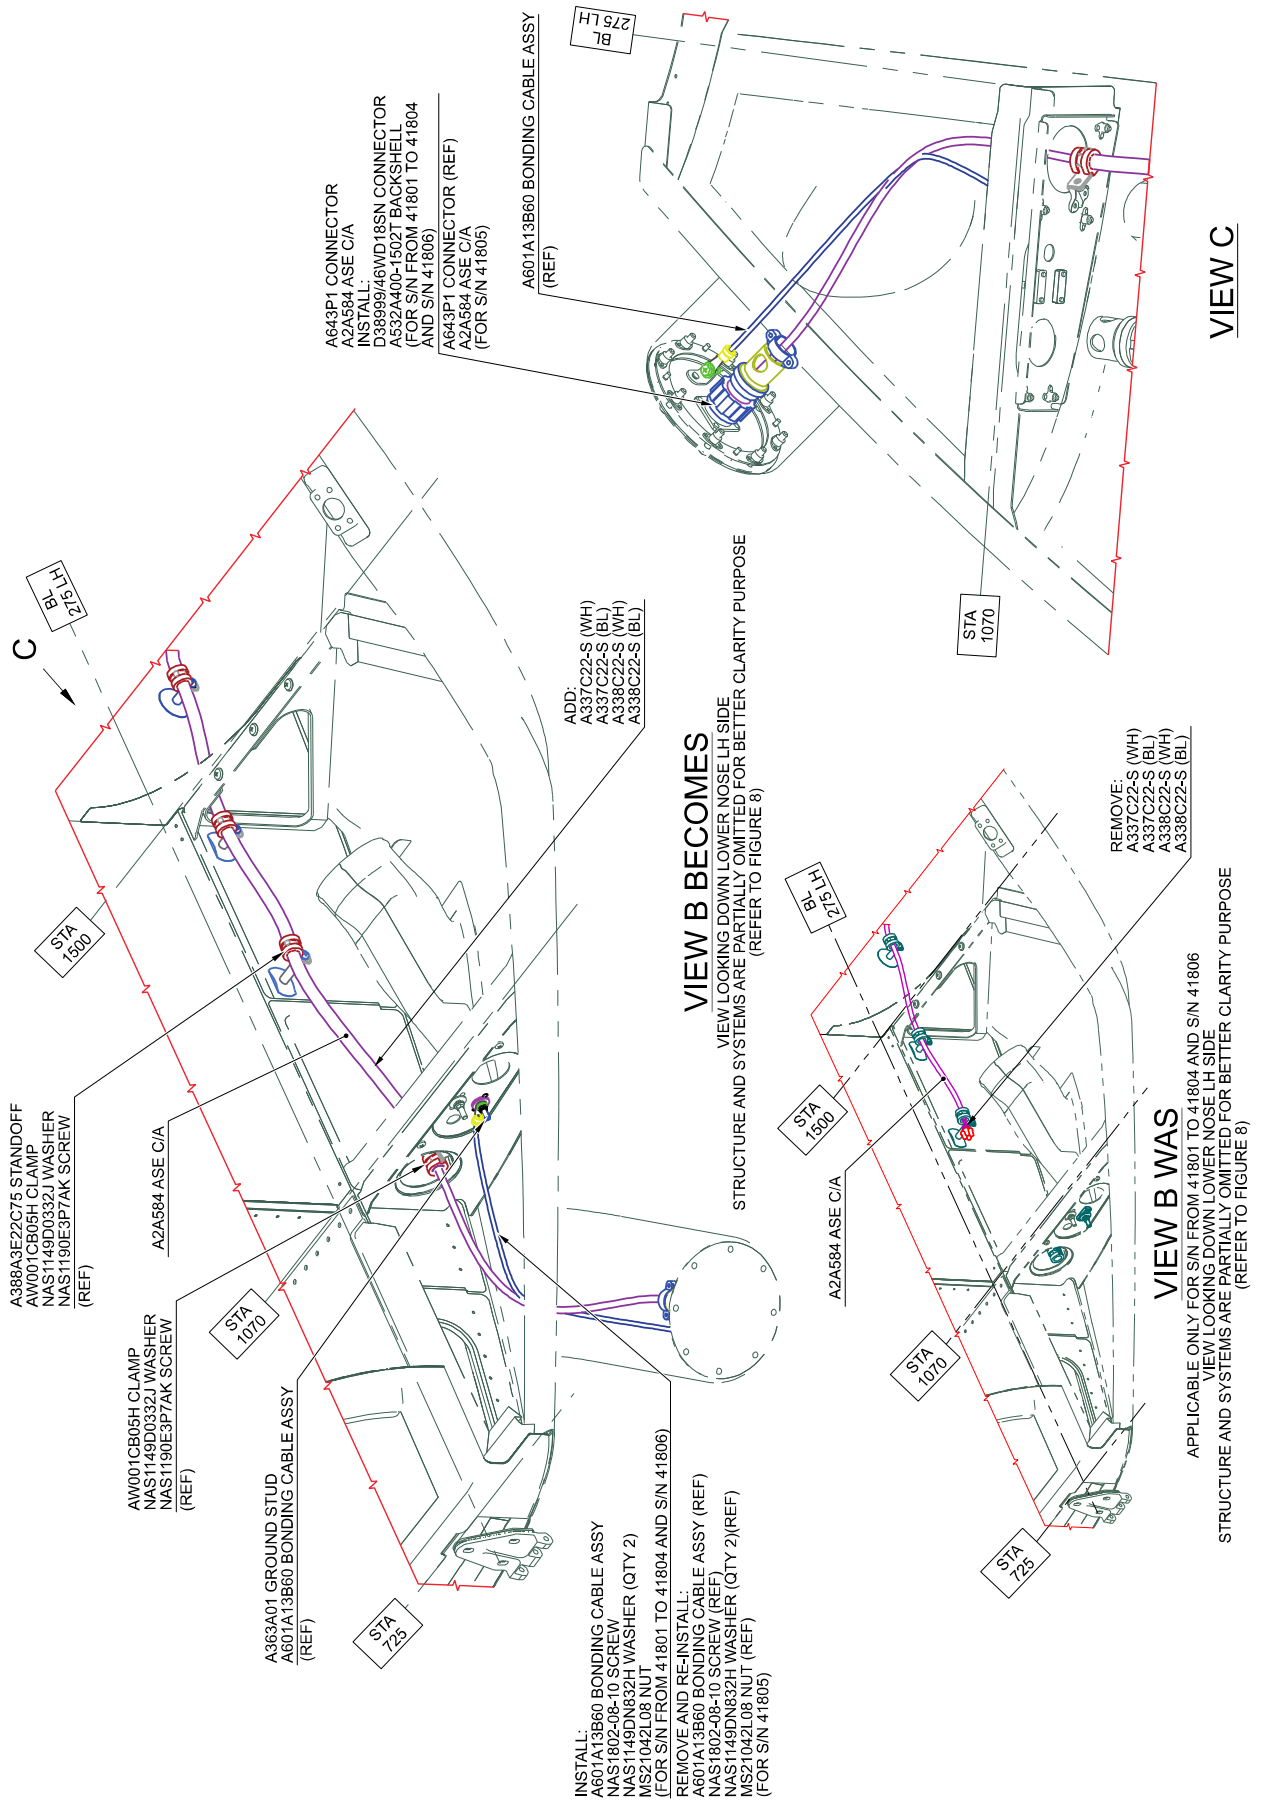

Figure 9
- 15.1 With reference to Figures 9 and 12, modify the ASE C/A A2A584 as described in the following procedure:
- 15.1.1 With reference to Figure 9 View C and Figure 12 Wiring Diagram, assemble the connector A643P1 by means of the electrical connector P/N D38999/46WD18SN and the backshell P/N A532A400-1502T.
- 15.1.2 With reference to Figure 9 View B Was and Figure 12 Wiring Diagram, remove the wires marked as A337C22-S (WH and BL).
- 15.1.3 With reference to Figure 9 View B Was and Figure 12 Wiring Diagram, remove the wires marked as A338C22-S (WH and BL).
- 15.1.4 With reference to Figure 9 and 12 Wiring Diagram, cut n°1 wire P/N A561A-T2-22 of adequate length and lay down between the connector A643P1 and the connector P137.
- 15.1.6 In accordance with AMP DM 39-A-20-10-18-00A-691A-A and with reference to Figure 9 View B Becomes and Figure 12 Wiring diagram, mark wire as A337C22-S (WH and BL) by means of marker sleeve or laser marking.
- 15.1.7 With reference to Figure 9 and 12 Wiring Diagram, cut n°1 wire P/N A561A-T2-22 of adequate length and lay down between the connector A643P1 and the connector P137.
- 15.1.10 In accordance with AMP DM 39-A-20-10-18-00A-691A-A and with reference to Figure 9 View B Becomes and Figure 12 Wiring diagram, mark wire as A338C22-S (WH and BL) by means of marker sleeve or laser marking.
15.1.11 In accordance with AMP DM 39-A-20-10-18-00A-691A-A and with reference to Figure 9 and Figure 12 Wiring diagram, mark the cable assy so obtained as A2A584 by means of marker sleeve or laser marking.
15.2 With reference to Figure 9, secure the wires laid down at the previous step by means of existing hardware and lacing cords.
15.4 With reference to Figure 9 View B Becomes, install the bonding cable assy P/N A601A13B60 by means of the screw P/N NAS1802-08-10, the nut P/N MS21042L08 and n°2 washers P/N NAS1149DN832H.
15.5 With reference to Figure 9 View B Becomes, connect the bonding cable assy P/N A601A13B60 (previously disconnected in step 8) by means of the screw P/N NAS1802-08-10, the nut P/N MS21042L08 and n°2 washers P/N NAS1149DN832H previously removed at step 8.
- 15.6.4 With reference to Figure 9 and 12 Wiring Diagram, cut n°1 wire P/N A561A-T2-22 of adequate length and lay down between the connector A652P1 and the connector P107.